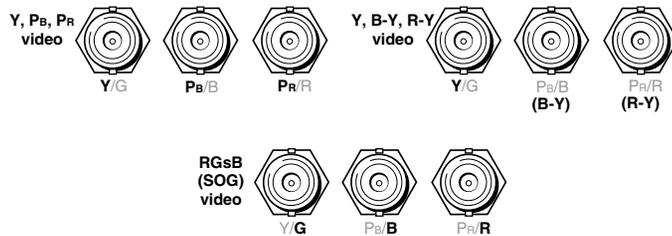

Figure 4 — Input connections
- ① **Power connector** — Plug a standard IEC power cord into this connector to connect the CVC 200 to a 100 to 240VAC, 50 Hz or 60 Hz power source.
- ② **Input connectors** — Connect a component video input device (HDTV, W-VHS [Y, P_R, P_B], SMPTE [Y, R-Y, B-Y]), Betacam® [Y, R-Y, B-Y]) or an RGsB input device to these female BNC connectors. Use high-resolution cable, such as Extron's BNC-4 mini HR, RG59/HR, or RG6/SHR cable. Connect the input device as shown in figure 4.